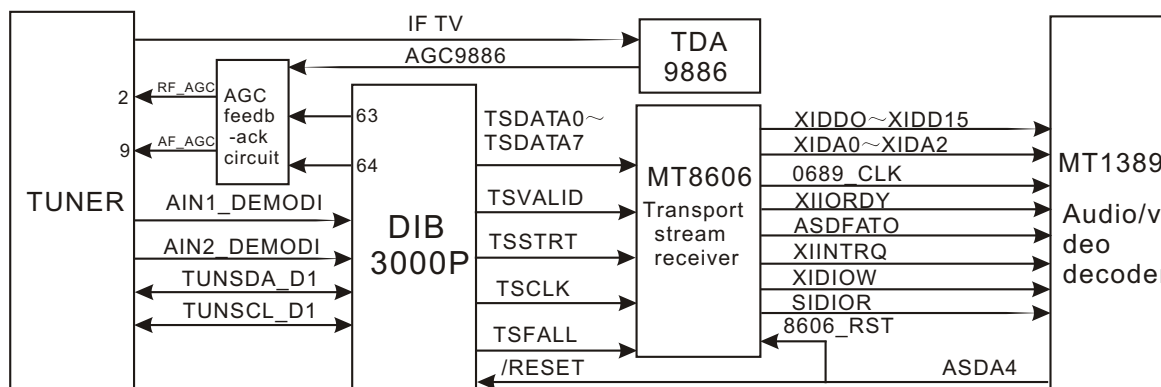

Figure 3.1.7.1 DVB block diagram
2. Block diagram of DVB receiving circuit is shown in figure 3.1.7.2: